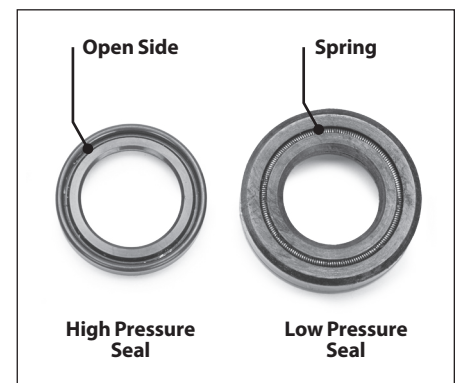

Figure 9
2. Install high-pressure seal with open side down into each seal chamber (See Figure 9).